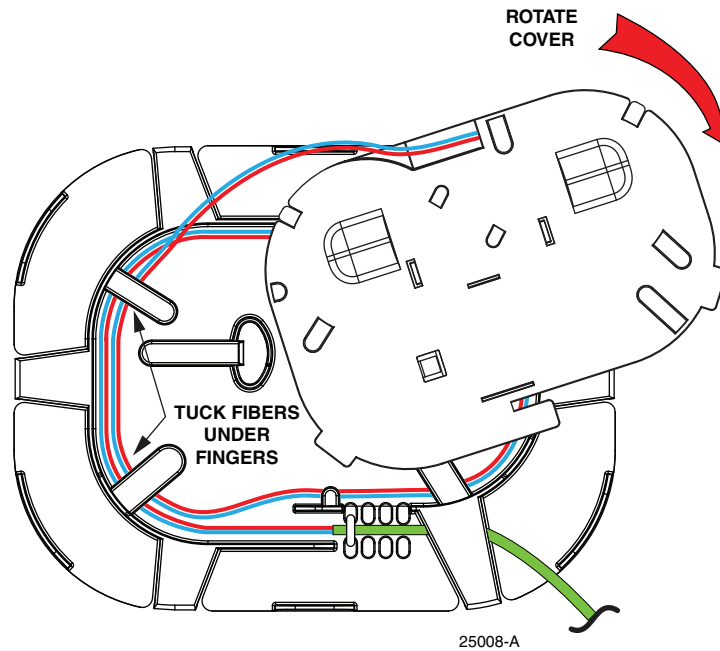

Figure 32. Continue Rotating the Cover
6. Continue rotating the cover as shown in Figure 32 until all of the fiber is wound into the central area of the splice tray.